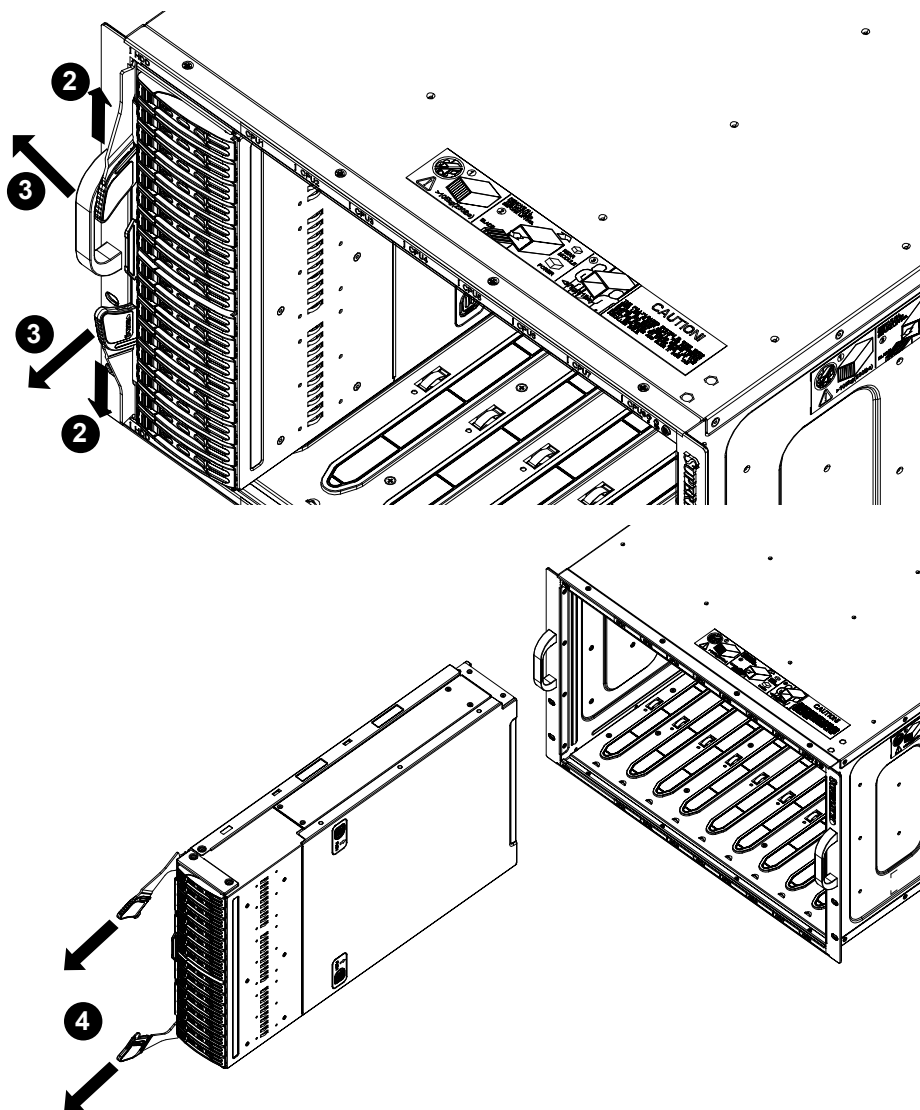

Figure 3-14. Removing a Storage Module
2. Open the top cover of the storage module as shown in Figure 3-14.